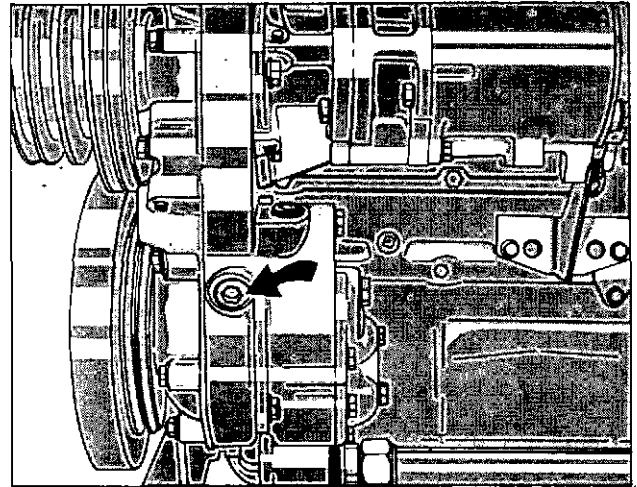

Fig. 14-86 (OM1001L). The Priming Location For The Lubricating System.
3. Remove the plug from the lubricating oil crossover passage as shown in Fig. 14-86.